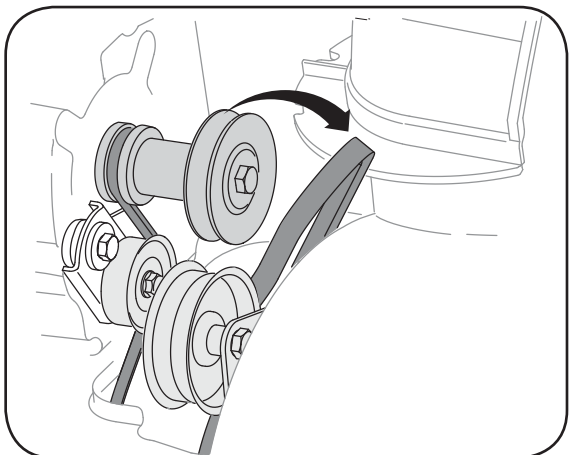

Figure 6-6
4. Roll the auger belt off the engine pulley. See Figure 6-6.
6. Lift the auger belt from the auger pulley, and slip belt between the support bracket and the auger pulley. See Figure 6-6.